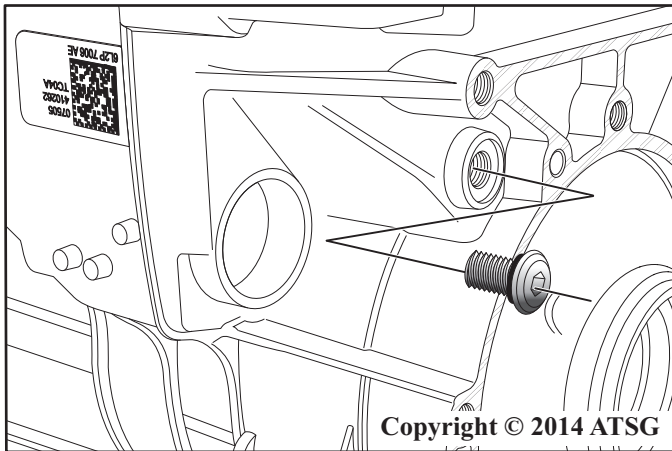

Figure 41
14. Remove the park pawl retaining pin bolt from the rear of the case as shown in Figure 41.